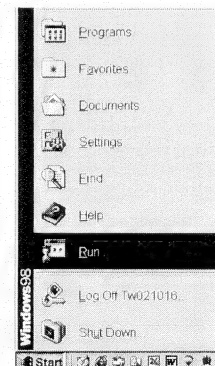

Fig. 4
2. Click **Start**, choose Run at start menu of Windows 95/98 as shown in Fig. 4.